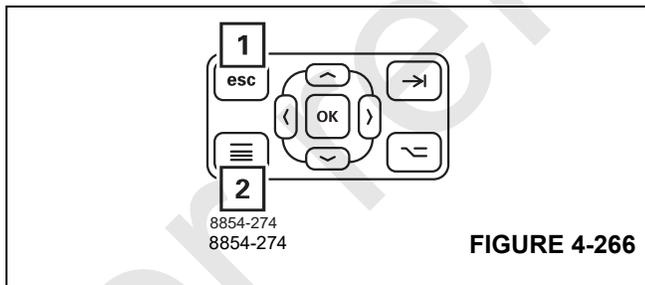

FIGURE 4-266
You can cancel the entry at any time using the (1), (Figure 4-266) or (2) buttons. The settings are then reset.